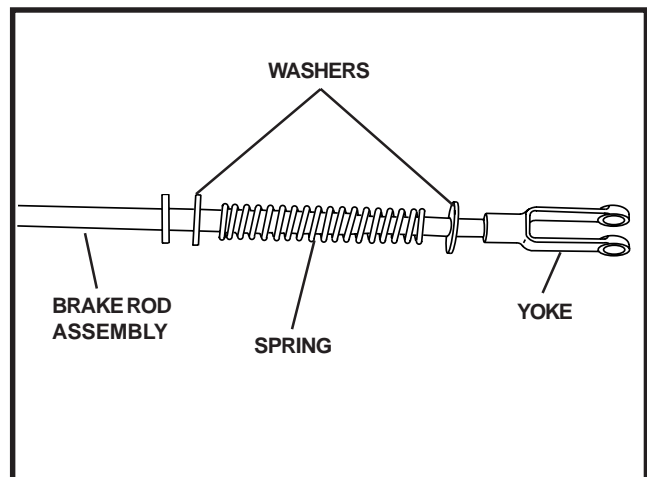

FIGURE 2
6. Assemble the compression spring, two (2) flat washers and yoke to brake rod assembly. See Figure 2. Screw yoke onto the rod assembly till rod is even or thru threaded portion of yoke about 1/4" (6.35 mm).